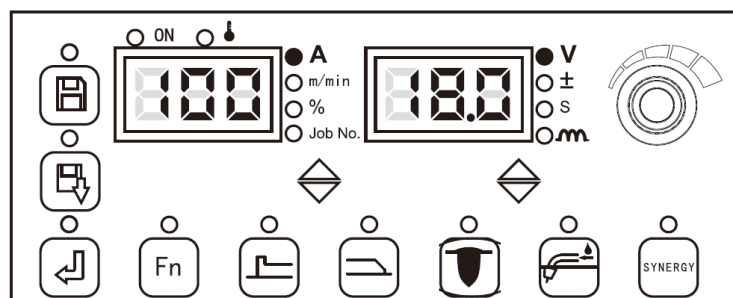

Figure 3-19 Screen for non-lock
2. Long press the **Enter** key, the indicators for Store and Invoke will be off, thus exiting Common lock, being restored to a non-lock condition, as shown in Figure 3-19.